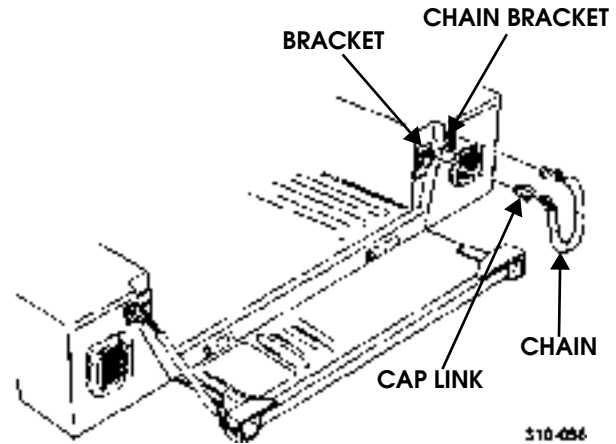

Figure 10-144: Tailgate Chain Replacement
2. Open chain cap link and disconnect chain from bracket (Figure 10-144).
1. Hook chain to chain bracket (Figure 10-144).